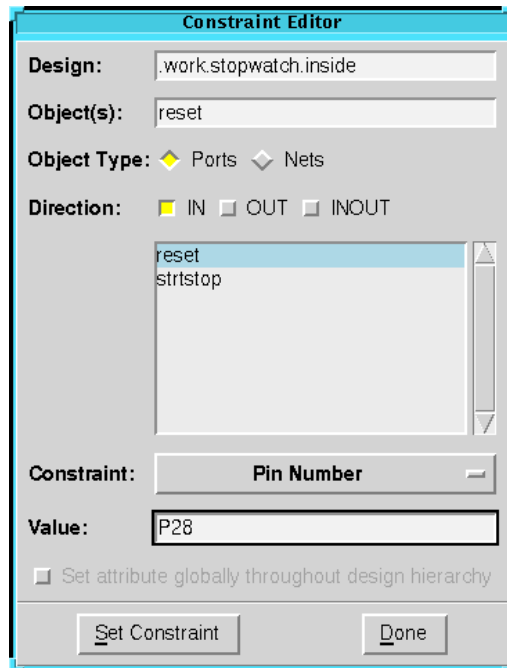

Figure 1-12 Constraint Editor
- 16. In the Flow Guide, click on the Constraints Editor button to open the Constraints Editor dialog box which is shown in the following figure 1-12.